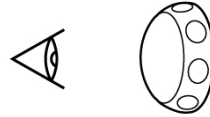

Fig. 35
- Check that there are no large/deep scratches (Fig. 35).